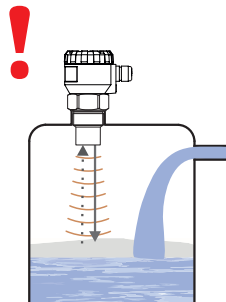

Fig. 5: Thick foam on the surface
- During filling, mixing and other processes, **foam** can arise on the surface level of the measured liquid. The thick foam considerably absorbs the ultrasonic signal which might cause malfunction of the level meter (Fig. 5). For such cases, it is necessary to set up "SENSITIVITY" mode to "high" or contact the manufacturer if need.